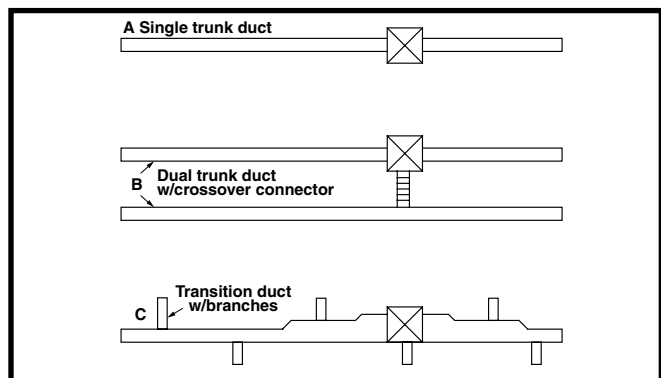

Figure 6. Typical Supply Duct Systems
- Location, size, and number of registers should be selected on the basis of best air distribution and floor plan of the home. Three typical distribution systems are shown in Figure 6.